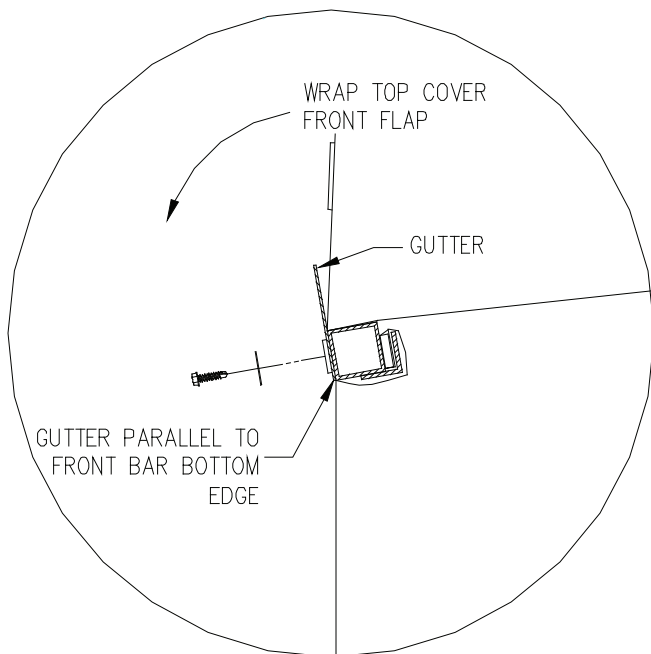

FIGURE 2
These instructions illustrate how to install a gutter assembly on a canopy style header. **(Note: Gutter goes underneath canopy flap) See Figure 2**
2. Once the first tek-screw is in place, again align the gutter from side to side, parallel to the front bar bottom edge. (See Figure 2) Starting from center and going out in each direction, install the the first 2-3 screws into the holes already in the gutter strip that land on the marked locations determined in the curtain face installation instructions. Do not install screws past the this point. This makes sure that the gutter does not get misaligned and lays flat. (Note: Starting from the outside in, can create bulges in gutter plate.)
4. After all the tek-screws are installed, lay the top cover front flap with velcro over the newly installed gutter strip, curtain face and screws. (See Figure 2) Take care in positioning the flap so it is even along the front of the unit. Do not pull flap tight over gutter plate. It should fit correctly slightly loose and the velcro on flap should just cover and hide the bottom edge of gutter assembly by approximately 1/2". Also, the flap should not be too loose, so adjust its position as needed.